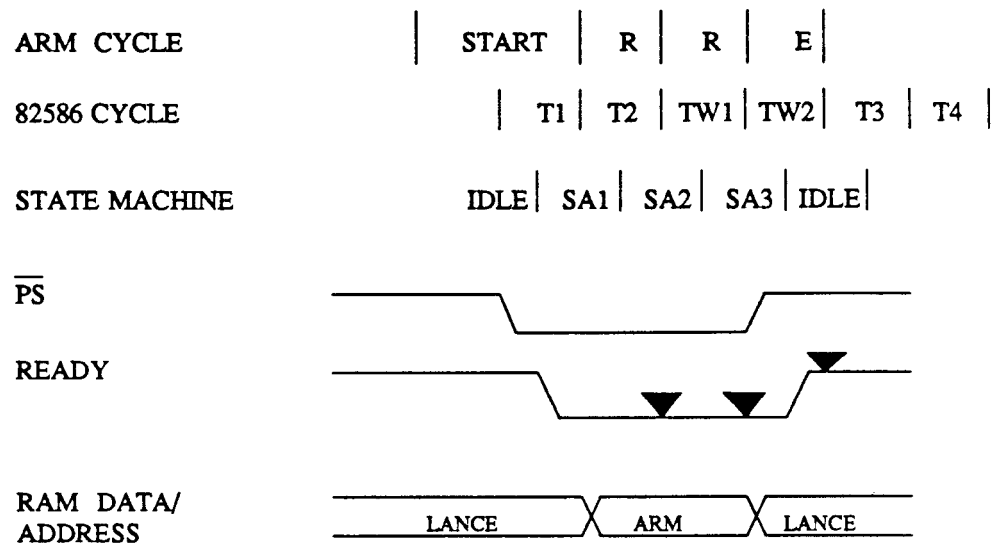

Figure 21.4 : Access collision cases - PS\* while LANCE is in T1
**PS\* while the LANCE is in T1: Figure 21.4:**